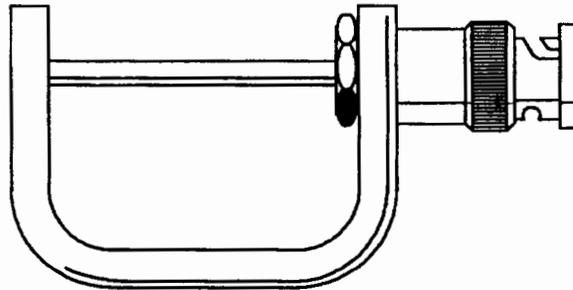

Figure 1-3 — Current Loop Adapter
- **Current Loop Adapter** (Tektronix part number 015-0601-00) — converts the voltage calibration output of 11000 and DSA Series Mainframes into a current source for calibrating 11A16-compatible current probes. The Current Loop Adapter has a connection bar to directly accept the measuring head of most Tektronix current probes. (See Fig. 1-3.)